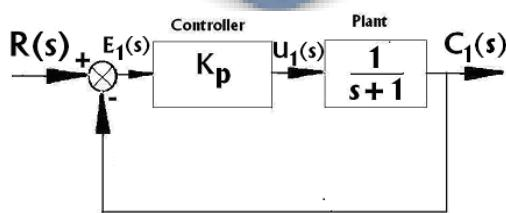

Fig.16.9
2. Find the step response of the system shown in Fig.16.9.